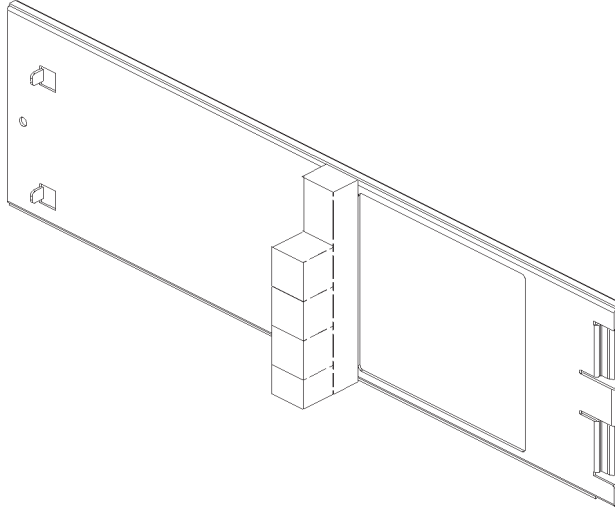

Figure B-40. Remove Block from PCI Assembly Cover
7. (J2240 Only) Before installing cover, if you installed an EISA, or graphics board that is taller than a PCI card remove the small break-off block from the cover that corresponds to that slot. Refer to Figure B-40.